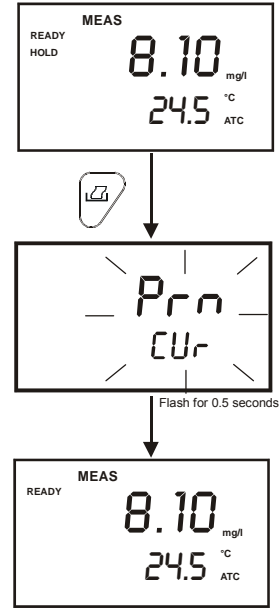

Figure 10: Print current data manually
1. From measurement mode, press HOLD key to freeze reading. See Figure 10.